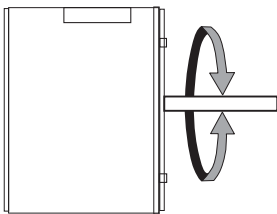

Figure 12
- 2 Make sure the motor shaft spins freely without effort manually in both directions [Figure 12].